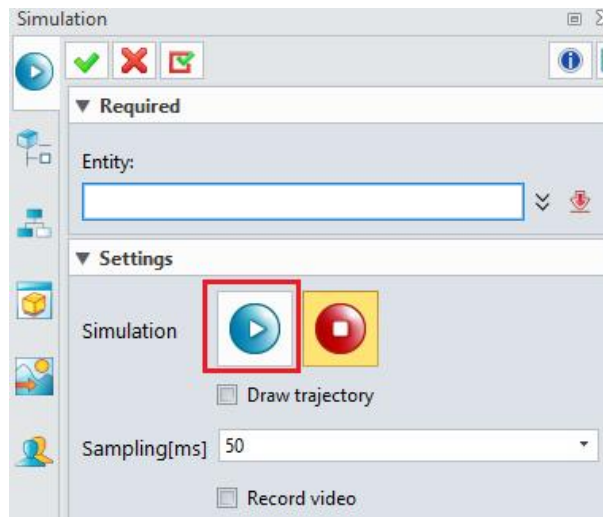

Figure 13-39: Start button
- Click the "Start" button to initiate the turntable operation.(Figure 13-39)